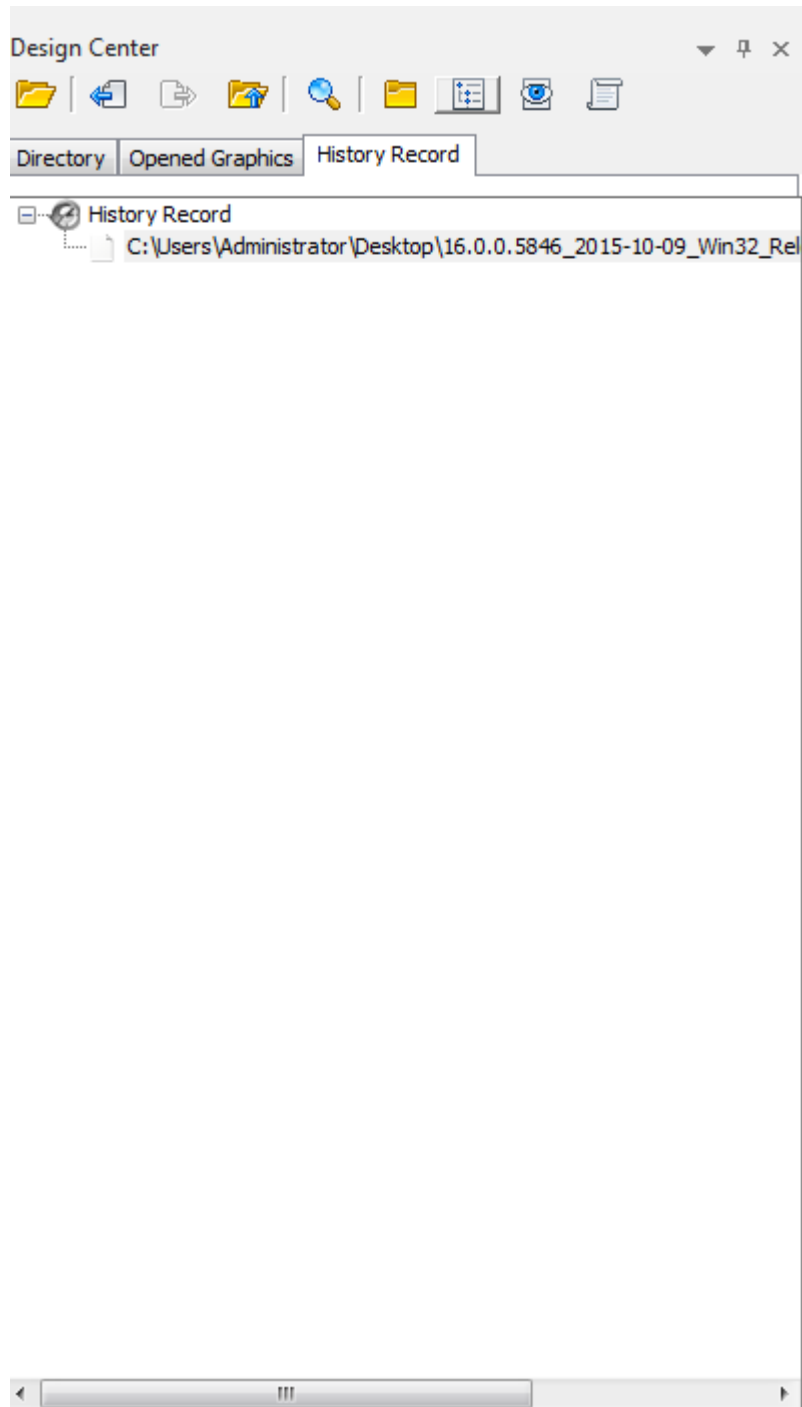

Figure 9-35 Interface of Folder
2) External tool in the place of function area is Tool option card, as shown in figure 9-35.